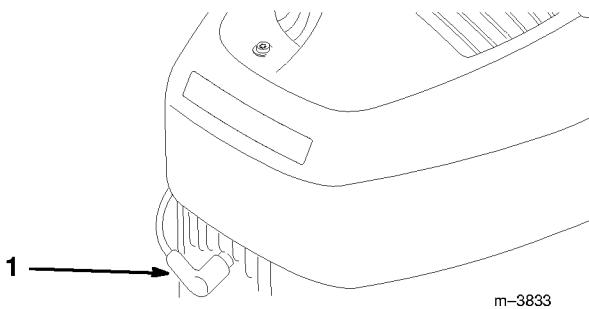

Figure 22
1. Pull wire off spark plug (Fig. 22). Remove spark plug and clean with a wire brush, removing carbon build-up. DO NOT SAND BLAST. Check condition of plug for cracks and damaged or worn electrodes. Replace if necessary.
3. Install spark plug by hand, then torque to 180 in.-lbs. (15 ft.-lbs.) (20 N·m) (Fig. 22).
2. Disconnect spark plug wire (Fig. 22).
1. Disconnect spark plug wire (Fig. 22).
**Note:** Blade nut must be replaced after installing and removing four (4) times. Locking feature will decrease and nut could loosen if not replaced.
- Reconnect spark plug wire when maintenance is completed (Fig. 22).